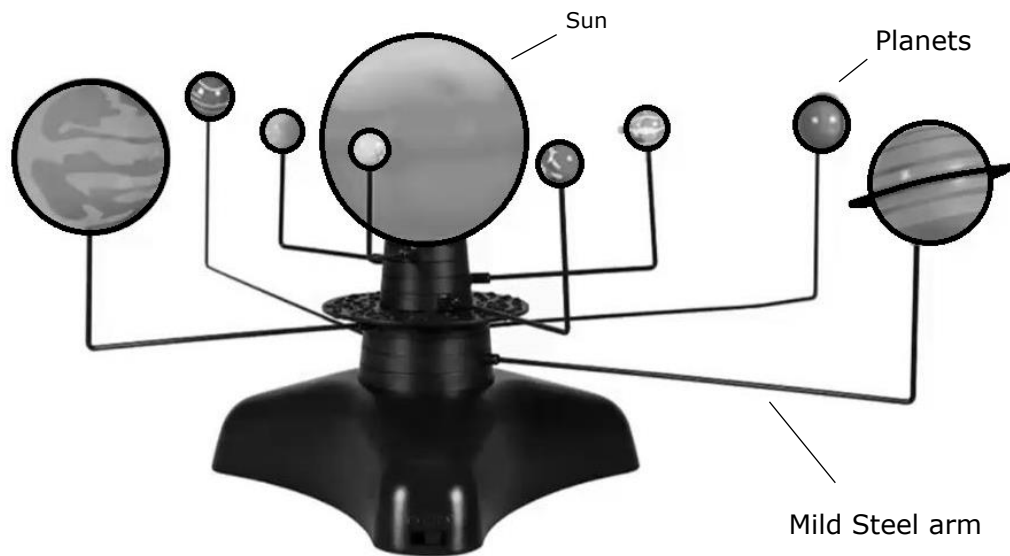

Figure 5
14. At the Science Fair students created an educational model of the solar system as seen in Figure 5. Metal and polymers were the materials used to create the model shown.